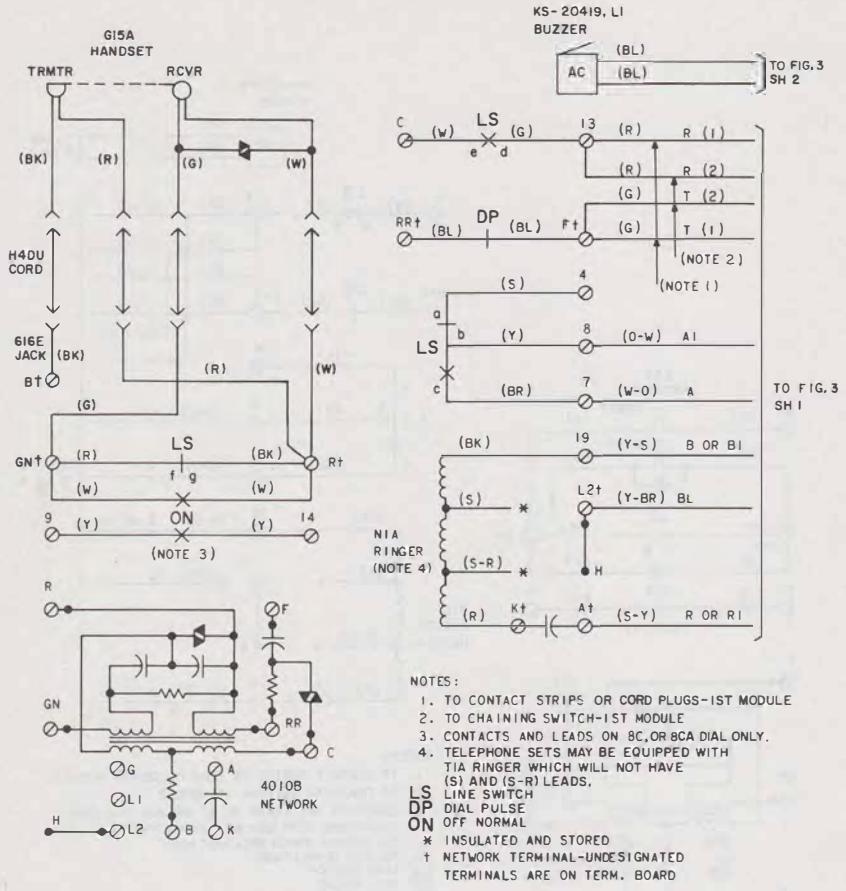

Fig. 2—630DAM and 631DAM Telephone Set Connections
- Add information on 630DAM and 631DAM (modular) telephone sets, Fig. 2